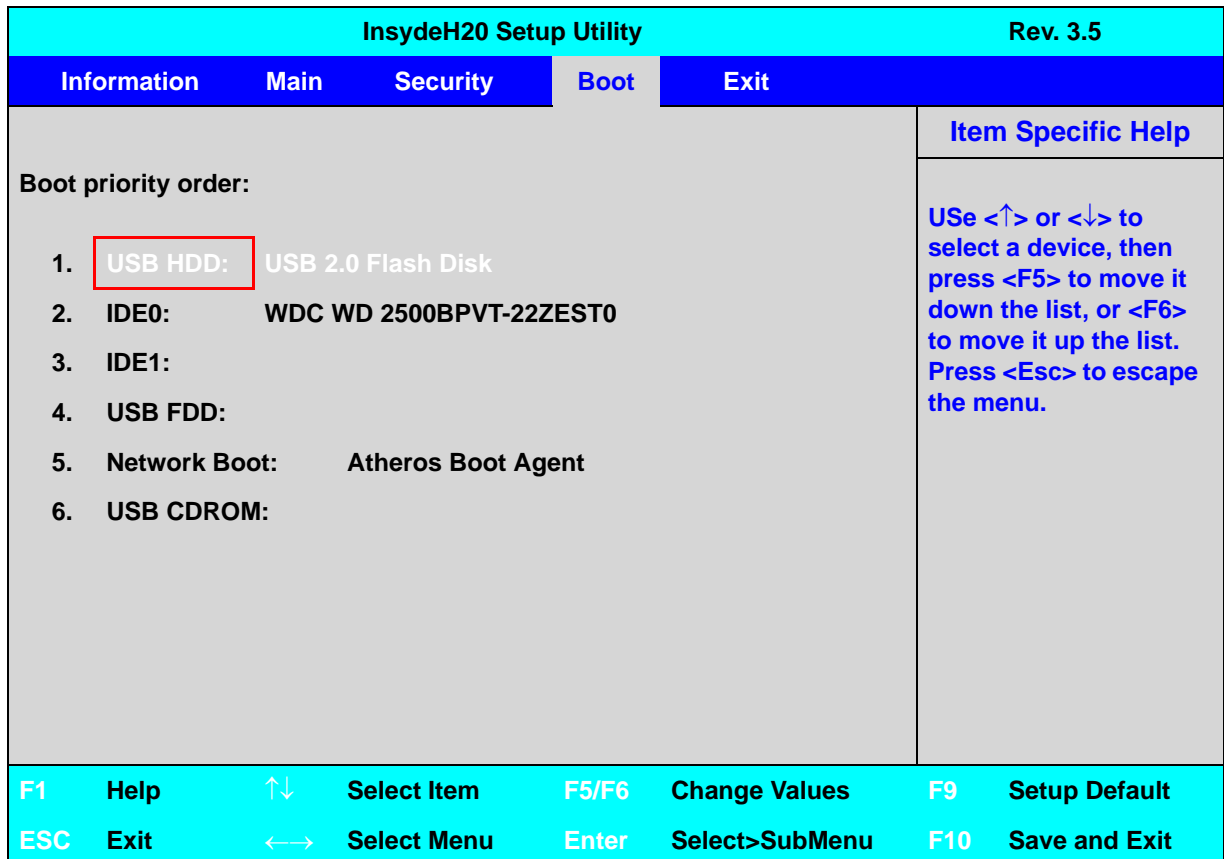

Figure 2-14. Change BIOS Boot Priority Order
3. Move USB HDD to position 1 (Figure 2-14). (Refer to *Boot* menu)